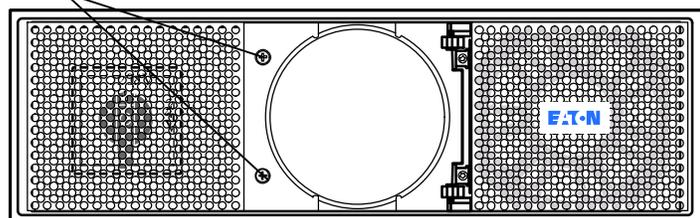

Figure 19. Remove the Front Cover Screws
2. Remove and retain the two left-side Phillips-head screws that secure the front cover (see Figure 19).